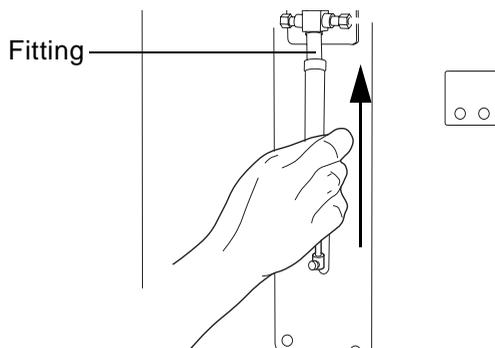
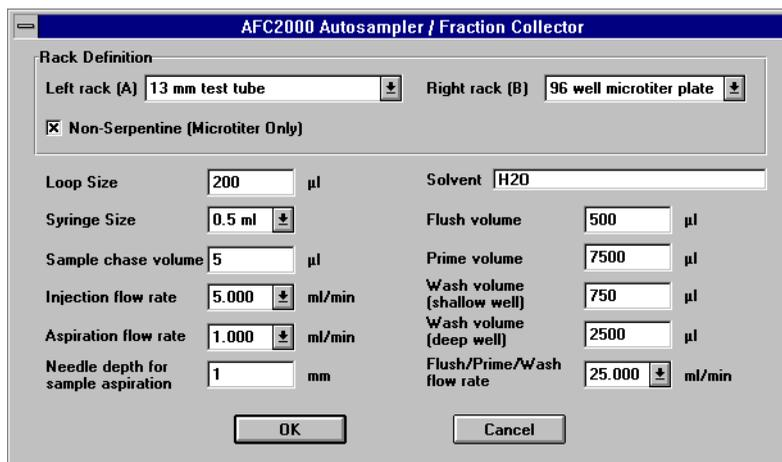

Figure 3-3 Attaching a Syringe to the AFC 2000
Figure 3-8 AFC 2000 Autosampler/Fraction Collector Dialog Box
Before using the AFC 2000 as an integrated autosampler, attach a syringe to the syringe pump on the AFC 2000 (Figure 3-3). Use the syringe size you select when configuring the AFC 2000 (see Figure 3-8).
5. Mount the new syringe on the plunger shaft and pull up on the syringe body until it reaches the fitting (Figure 3-3).
Selecting For the autosampler solvent, use the reagent you configure as the autosampler solvent in the AFC 2000 Autosampler dialog box (see Figure 3-8).
The AFC 2000 Autosampler/Fraction Collector dialog box is displayed (Figure 3-8).